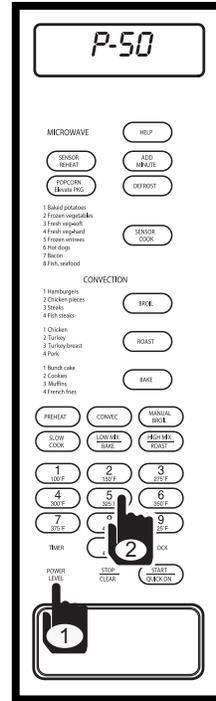

Figure 3-31.
2. Press POWER LEVEL key and "PRESS - POWER - LEVEL - KEY" will flash on display. For example: 70 percent power; press number 7 key. "P-70 - PRESS - START" will flash on display. (See Figure 3-31).